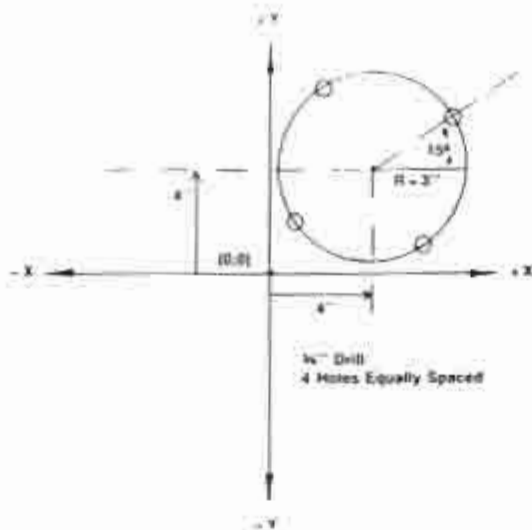

Figure 39. Hole Pattern Location Based On Cartesian Coordinate System.
- 5) Move the highlight bar to the "LOCATION OF FIRST HOLE" field. This first hole offset is a DEG (degrees) or DMS (degrees-minutes-seconds) value, referenced from the X+ axis or zero degrees axis (See Figure 39).